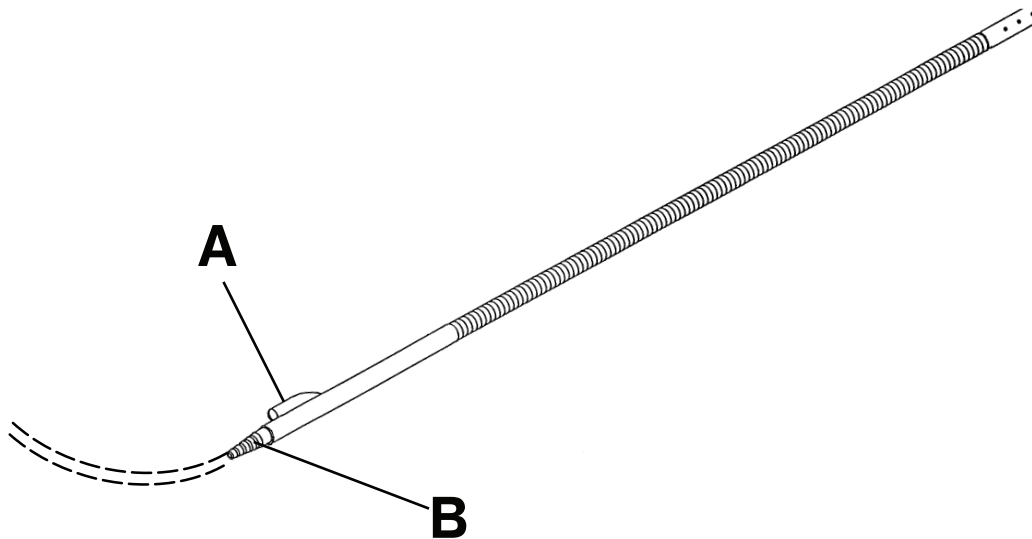

Figure 11 – Air delivery tubing
1. Place the mounting tab (A) into the IV socket at the head end of the product.
2. Insert the air delivery tube into the air tube receptacle (B) (Figure 11).